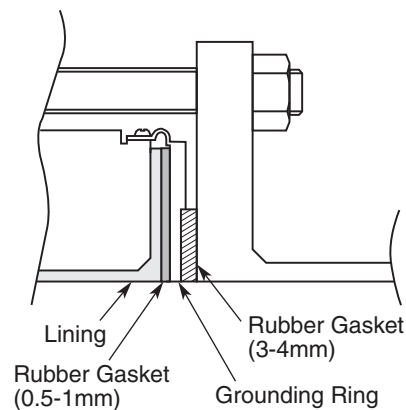

Figure 22. Installation on PVC Pipe with non-316 ss Grounding Ring (with Rubber Gaskets)
3. Use this method to install the flowtube using a low fastening torque and rubber gaskets. First, remove the grounding ring from the flowtube, then insert a rubber gasket with a thickness of 0.5 to 1.0 mm. Then reinsert the grounding ring on top of the rubber gasket. Next, remove the PTFE gasket and insert a rubber gasket 3.0 to 4.0 mm thick to replace it. Under these conditions, install the flowtube on the pipe as shown in Figure 22. Tighten the bolts to the torque required to achieve a fluid seal for the rubber gasket. In this case, the two kinds of rubber gaskets that are used should be made of the same material. For the dimensions of the rubber gaskets, refer to Tables 4 and 5.